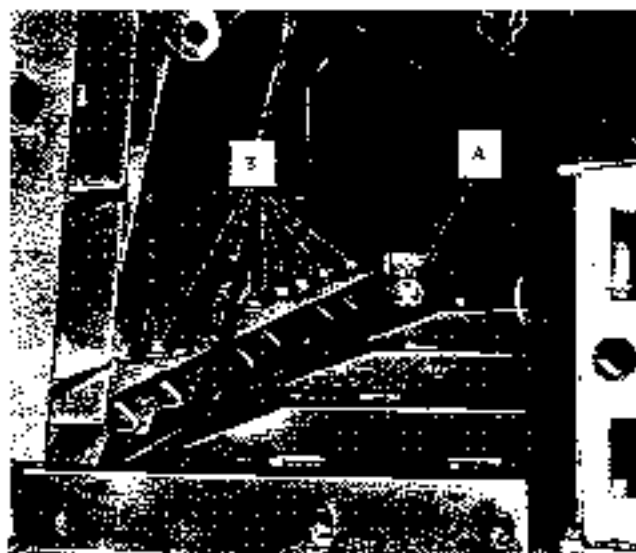

FIGURE I-13 - Top View of Screed Plate with Hot Air
4. Occasionally, from expansions due to heat, and the various crown adjustments, the joint (A) Figure I-11, at the hinge section of the screed will open up slightly, and, may or may not, leave a mark in the finished mat. This should be checked periodically and the screed plates kept tight, at the hinged joint (A). The material should be cleaned out of the joint between the plates and the two large bolts (A) Figure I-13, tightened to pull the screed plates tight together. Be sure to lock the nuts on the bolts, by bending over the square plate washer. New bolts (A) are always furnished with each set of new screed plates and should be installed when new screed plates are installed.
3. Install the new plates using new hinge bolts (A) Figure I-13. Replace shims, in their respective positions, previously removed from the mounting bolts (B) Figures I-11 and I-13.
4. Using a straight edge check screed plates every 12 inches, both lengthwise and crosswise over the screed surface. It may be necessary to add additional shims, or remove some of the shims, from the mounting bolts to get a true surface. Tighten all bolts securely. Be sure to bend plate washers to lock out of large plate bolts (A) Figure I-13.